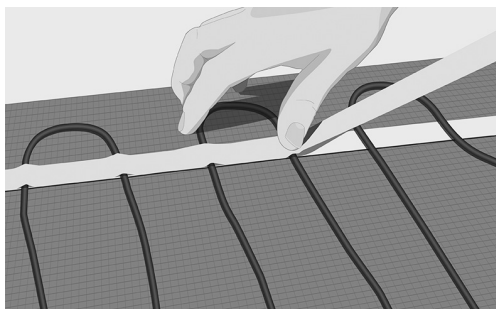

Fig. 12. Fix the cable with masking tape
10. Make sure the cable is secured and keep it's position. If masking tape is used, apply thoroughly and tight around the cable and down on the double sided tape on the floor (Fig. 12).